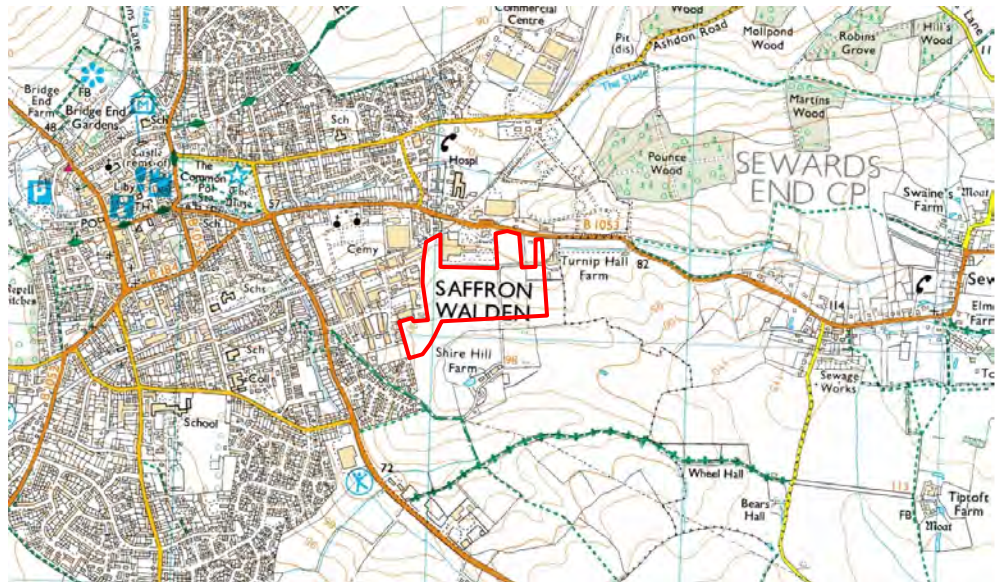

Figure 1.6.1, Site location plan. Approximate site boundary outlined in red.
1.6.1 Figure 1.6.1 presented below shows the location of the site.